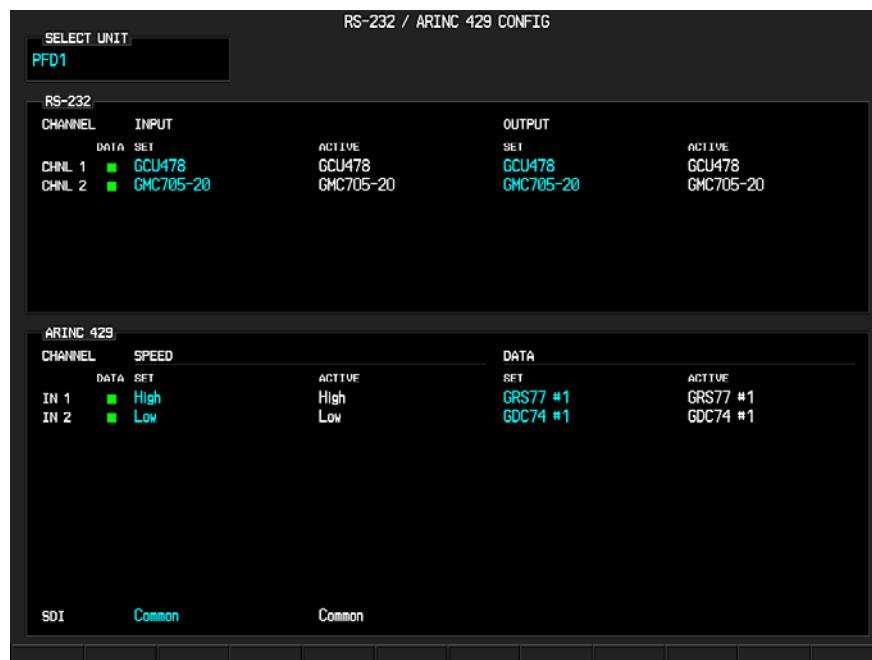

Figure 8-1. RS-232/ARINC-429 Config Page (PFD1)
4. View the GRS 77 #1 and GDC 74 #1 DATA indicators in the ARINC 429 window and make sure both indicators are GREEN which indicates the channels are receiving data as shown in Figure 8-1.
7. View the GRS 77 #2 and GDC 74 #2 DATA indicators in the ARINC 429 window. Make sure both indicators are GREEN which indicates the channels are receiving data as shown in Figure 8-1.